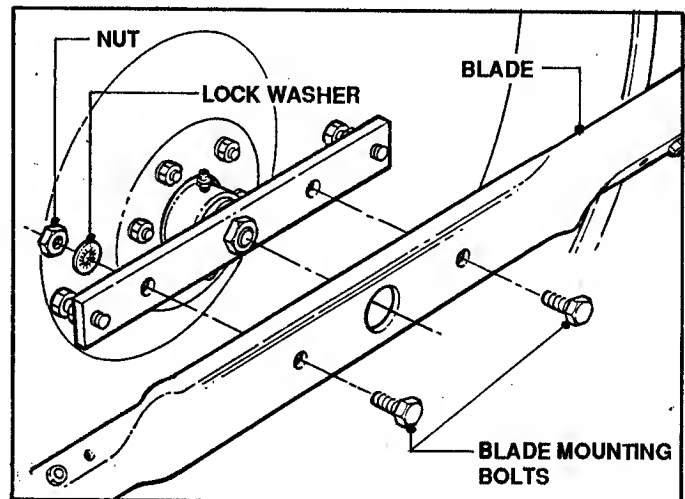

FIGURE 4.20
2. Remove blade. See Figure 4.20.
6. Reinstall blade. Refer to Figure 4.20. Torque blade mounting bolts to 45-55 ft. lbs.